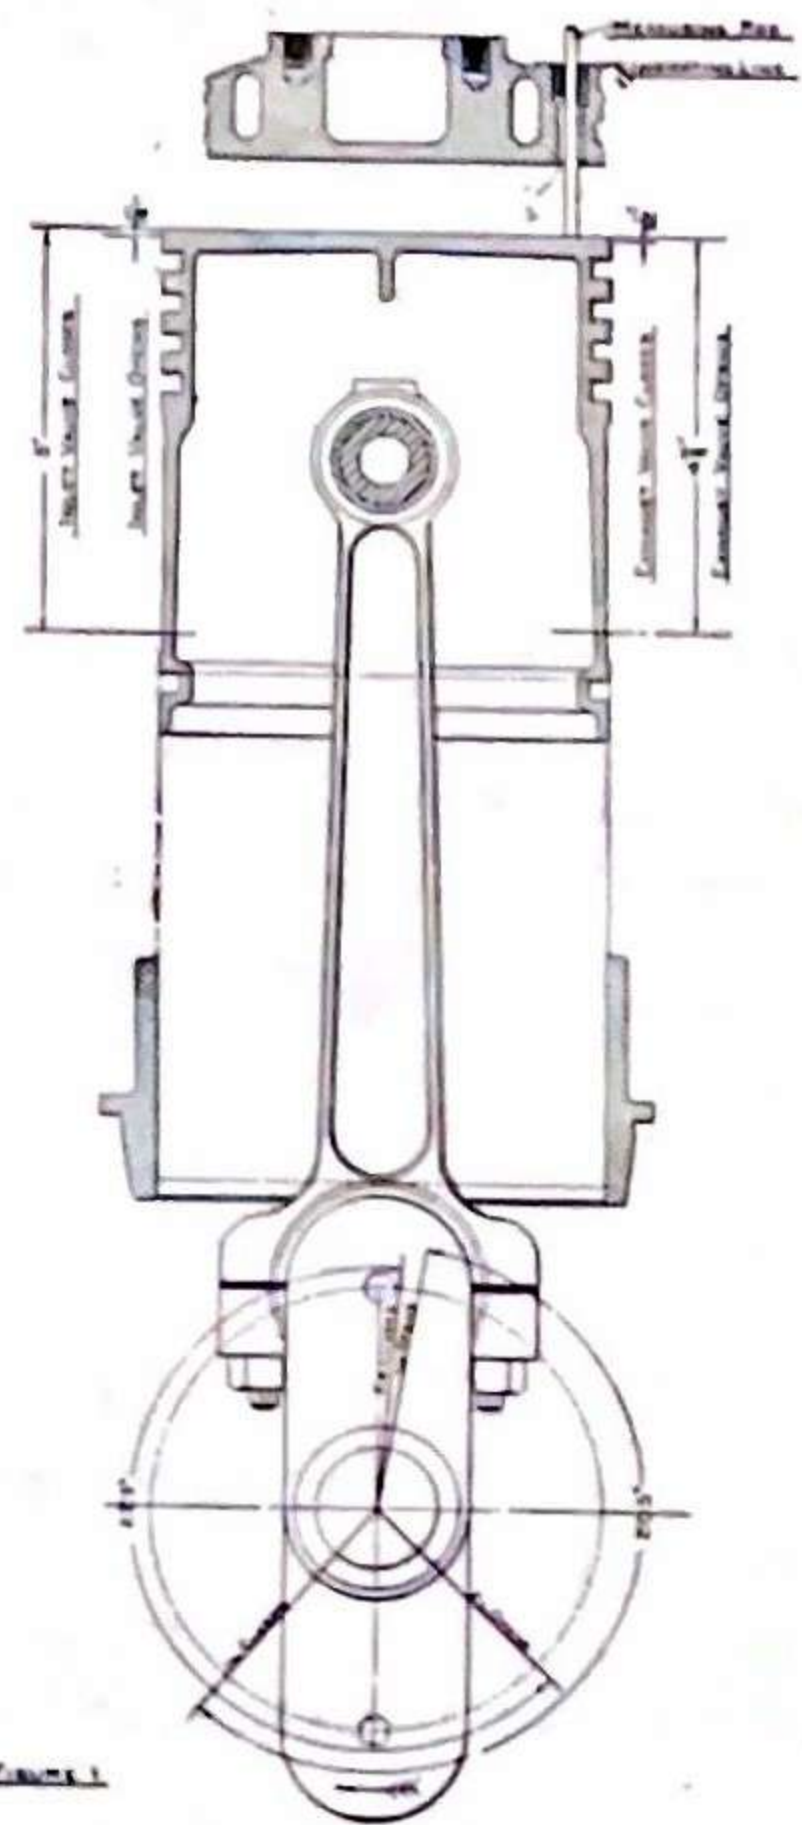

FIGURE 1
We urge that the gasoline be of the highest test, preferably 72 to 76 degrees Beaume, and also advise the use of waterless gasoline. When filling the tank use a large funnel with a piece of chamois skin covering the top. The chamois serves as a strainer, permitting gasoline to pass through and retaining sediment and water. This precaution is not absolutely necessary, but it is well worth the trouble. The gasoline system is shown in Plate IV., Fig. 1.
The Thomas clutch is of a single disc type (see Plate 1, Fig. 1). The driving disc (22) is riveted to a drop forged hub (23), which slides upon the square of the coupling shaft (25), between the motor and transmission, as shown in the drawing.
A small foot lever (16) (Plate 1, Fig. 1), is provided, which operates the muffler cut-out, allowing the exhaust from the motor to escape at the valve, (17) before reaching the muffler.